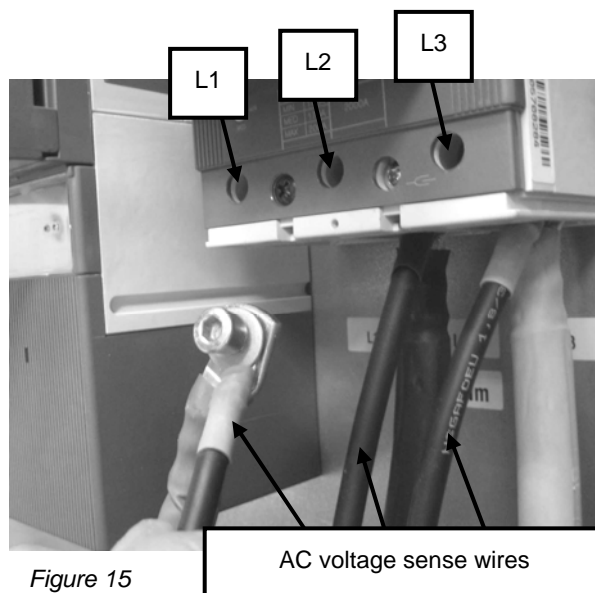

Figure 15
- 4 See Figure 15. Connect the three phases from the AC power cables to the Main AC circuit breaker Q2. Make sure that the three phases L1, L2 and L3 are connected in the correct sequence to a clockwise rotary field. Do not forget to reconnect the AC voltage sense wires under the main cables.